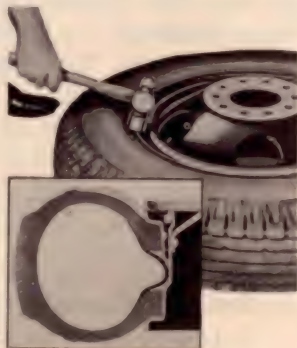

Fig. 63—Releasing Tire Clamp Ring
2. Using a hammer tap around the side ring progressively to move it in toward the center of the rim until it clears the clamp ring (fig. 63).